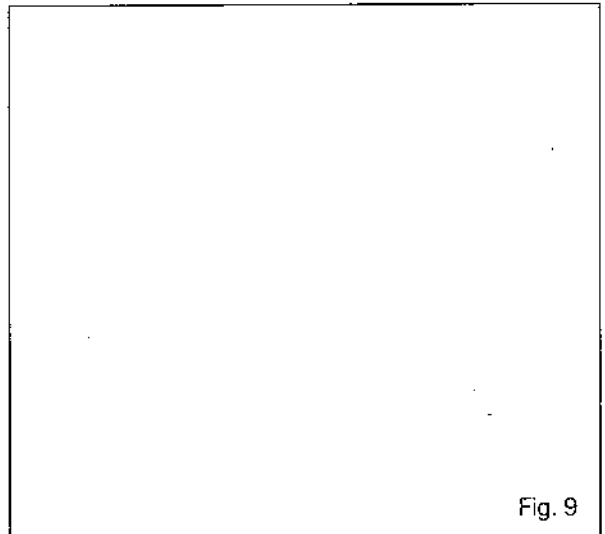

Fig. 9
- 3378152M11 - Splitting tools (Fig. 9)